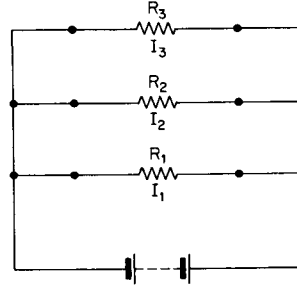

Fig. 2.84 Resistances in parallel
**Resistances in parallel.** In Fig. 2.84 three resistances are shown connected across the same source of supply. Resistors connected in this way are said to be connected in *parallel*. The current divides into three paths  $I_1$ ,  $I_2$  and  $I_3$ . In general there will be as many paths as there are resistances in parallel.
**Example.** If in Fig. 2.84  $R_1 = 2\ \Omega$ ,  $R_2 = 3\ \Omega$  and  $R_3 = 4\ \Omega$ , what is the total resistance of the circuit?